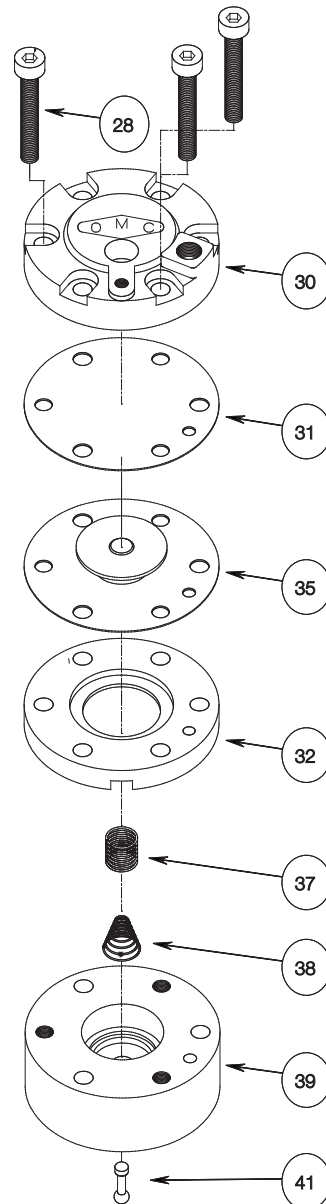

Fig. 6.3.2- Relay (exploded view)
If there is any oil and condensate in the air supply, clean the diaphragms (31) and (35) and the other inside elements of the relay (see Fig. 6.3.2). Disassemble the relay as follows:
- 4) Remove the three Allen screws (28) and disassemble the relay (see Fig. 6.3.2). Clean or replace the diaphragms.
- 5) Assemble the relay. Follow the layout drawing shown in Fig. 6.3.2.